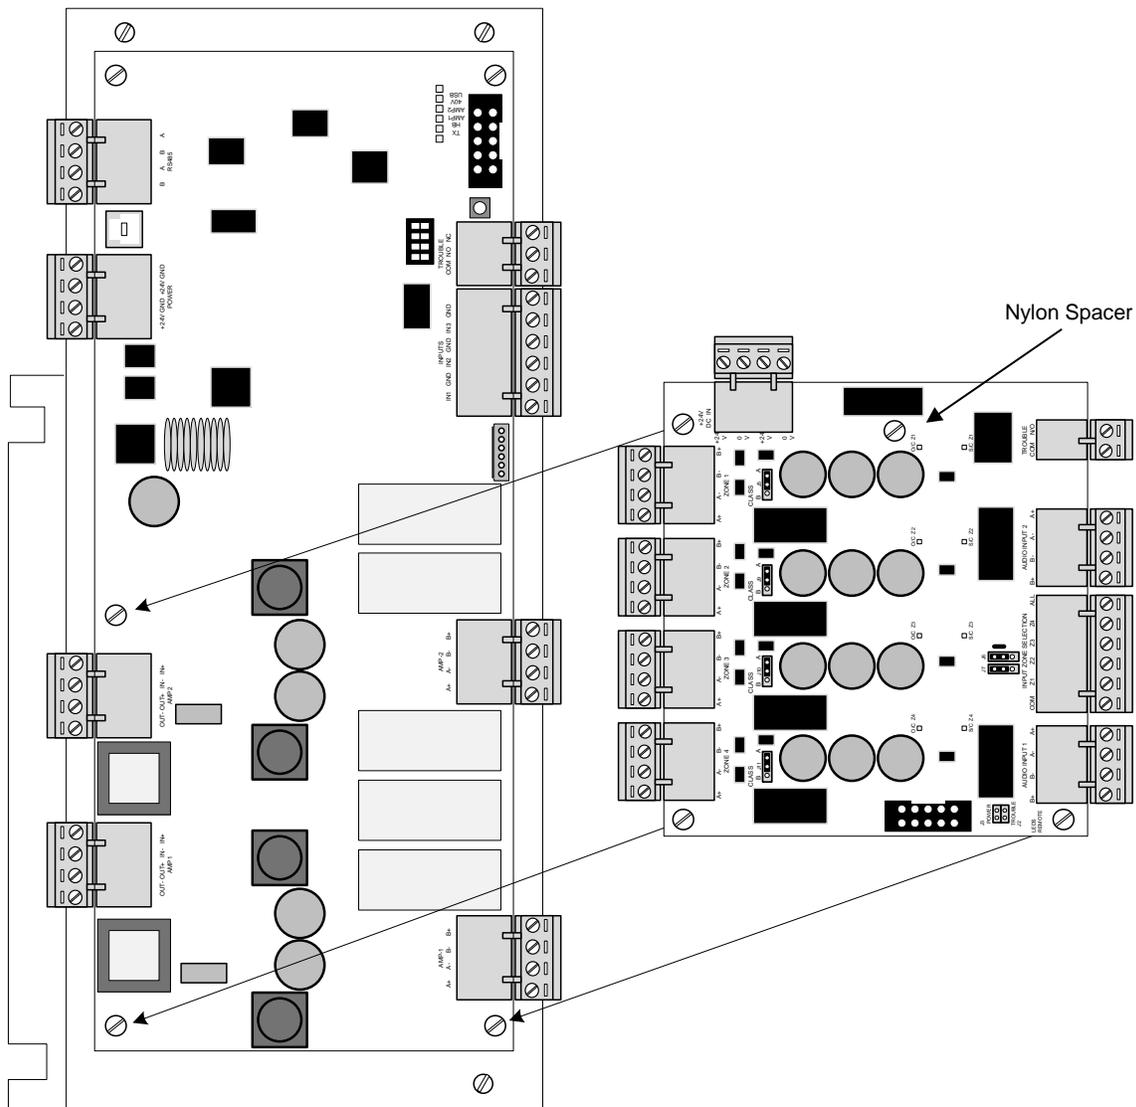

Figure 25 – NX-ZS to NX-AMP-80 Mounting
The NX-ZS audio zone splitter module is supplied with three (3) metal hexagon spacers and one (1) nylon spacer. Remove the three (3) lower screws securing the NX-AMP-80 module to its mounting plate and install the three (3) provided metal hexagon spacers. Install the provided nylon spacer into the fourth mounting hole on the NX-ZS module as indicated in figure 25.
Mount the NX-ZS audio zone splitter module above the NX-AMP-80 audio amplifier module to the three (3) previously installed metal hexagon spacers and secure with the previously removed screws (see figure 25).